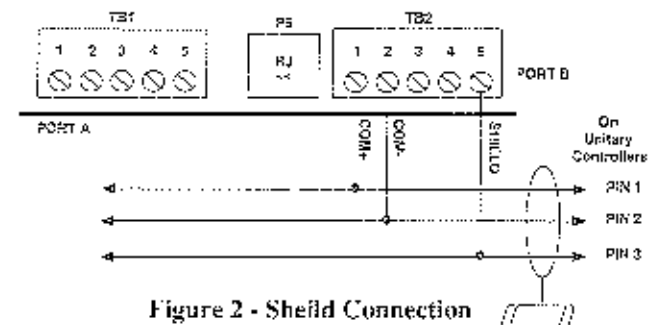

Figure 2 - Shield Connection
2. Connect the shield to terminal #5 of Port B on the UCI as shown in Figure 2. NOTE: the shield is not a ground. Do not connect the shield to ground or to a chassis point.